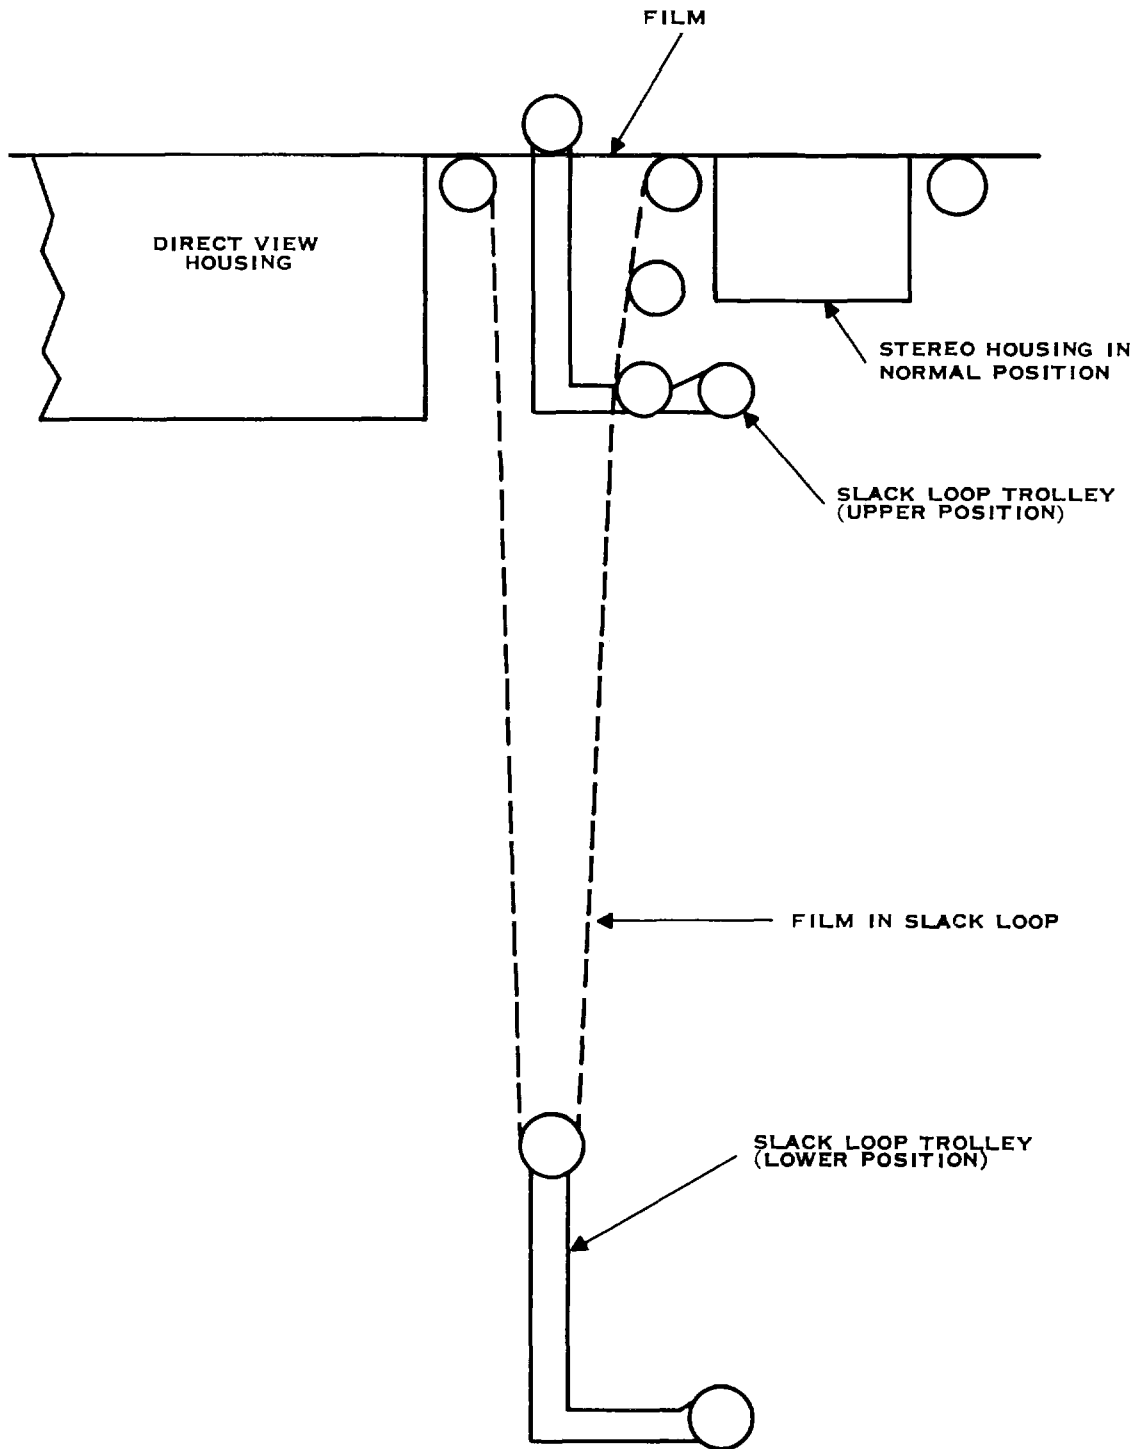
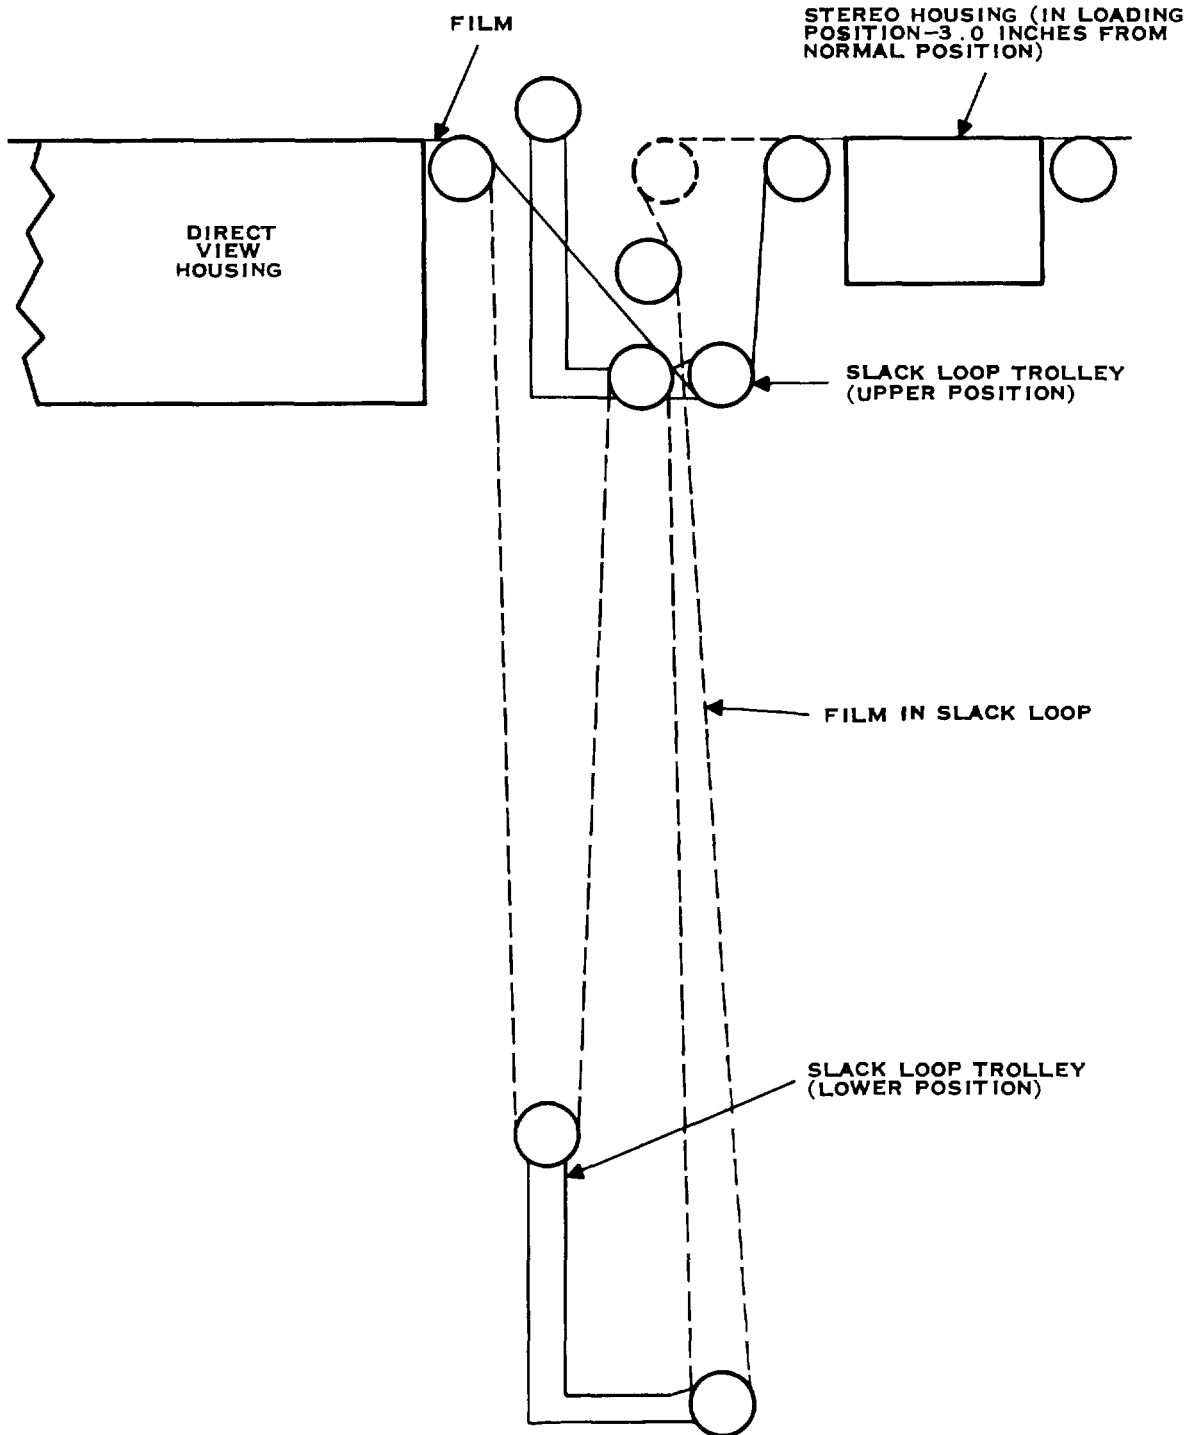

Figure 3-10. Short Loop Film Threading Diagram
Figure 3-11. Long Loop Film Threading Diagram
- r. Raise direct-view table platen. Thread film in slack loop as shown in figure 3-10 for short loop operation or as shown in figure 3-11 for long loop operation. Lower, but do not lock, direct view platen.